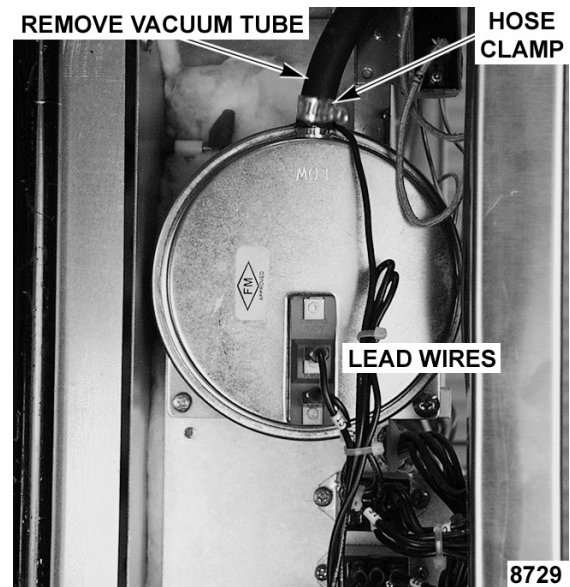

Fig. 13
- C. Loosen hose clamp (Fig. 13) and remove vacuum tube from the vacuum switch.